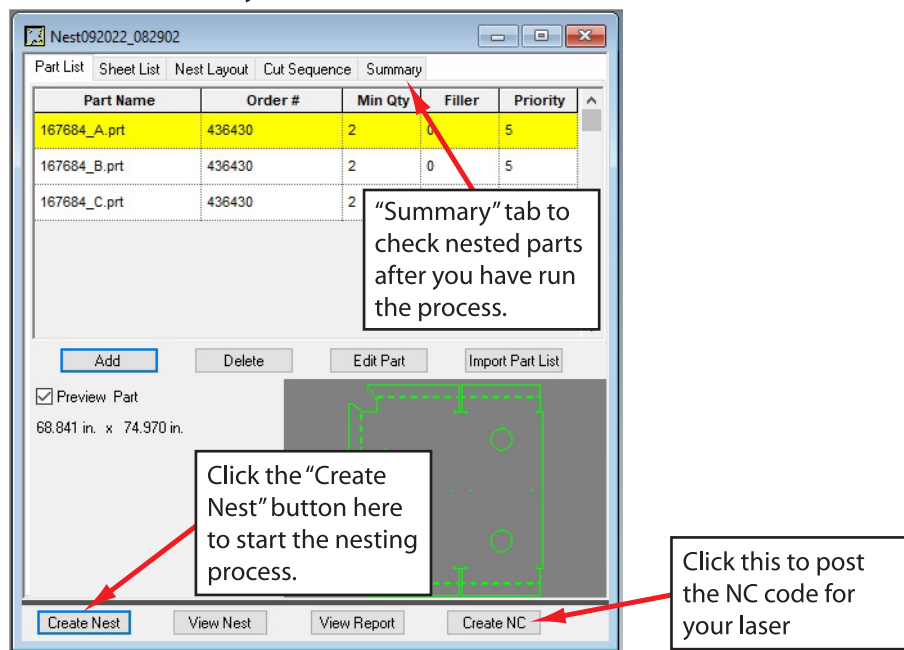

Fig.29
34) The “Summary” tab, which is the last tab, shown in Fig.29, shows you what actually got nested and what did not, after you run your nest. We will show this ahead. However, once you have all your settings selected or checked, you are now ready to create your nest by clicking the “Create Nest” button in the lower left corner as shown in Fig.29 below. It will run through the nesting options automatically and will stop to show you what it ended up with and how many sheets needed etc.
- 39) Once you have made all revisions to your nest that you want to make, you are now ready to post the code for the laser to use. But first, Save Your Work once again so you don't lose the revisions you just made. Now click on the "Create NC" button (as shown back in Fig.29) and it will generate the code and open the window to show you the code that was generated, shown below in Fig.34.